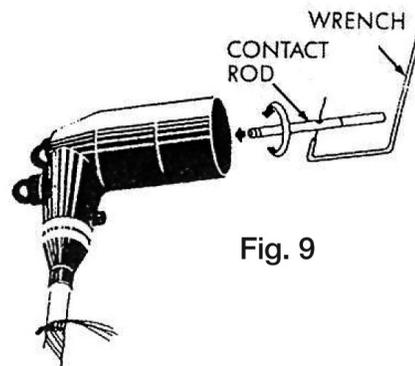

Fig. 9
- C. Hand thread the probe into the lug to avoid cross threading. Once the probe has been properly started, use the supplied wrench to fully tighten probe into the lug. The probe will be fully mated when the wrench permanently deforms at approximately 100 to 120 inch/lbs of force. Use care to keep the probe clean of dirt and grim during installation. See Figure 9.